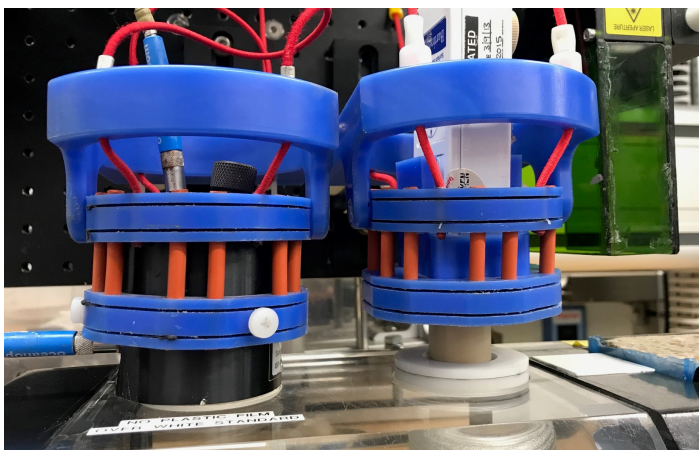

Figure 11. Correct position of sensor on the top of the standards.
10. After data acquisition, measurements of MSP (Magnetic Susceptibility Point) and white standard are performed. Placement of the sensors to their respective standard is **extremely important**. For the MSP measurement, this corresponds to the insertion of the sensor into the standard (Figure 11).